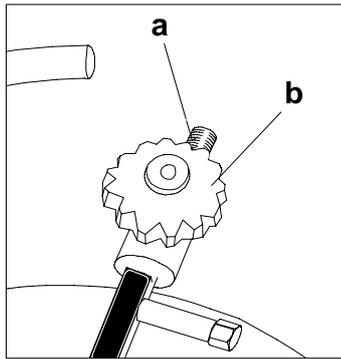

Fig. 3-3. Connection for the filling line
- (1) Close the pressure build-up valve **3**.
- (2) Open the pressure release valve **7** **slowly** to release the pressure. Check the pressure drop on the pressure gauge **6**.
- (3) Connect the filling line of the liquid nitrogen supply to the threaded tube fitting **a** (1/4" outer thread) at the liquid nitrogen valve **b** (see *Fig. 3-3*).